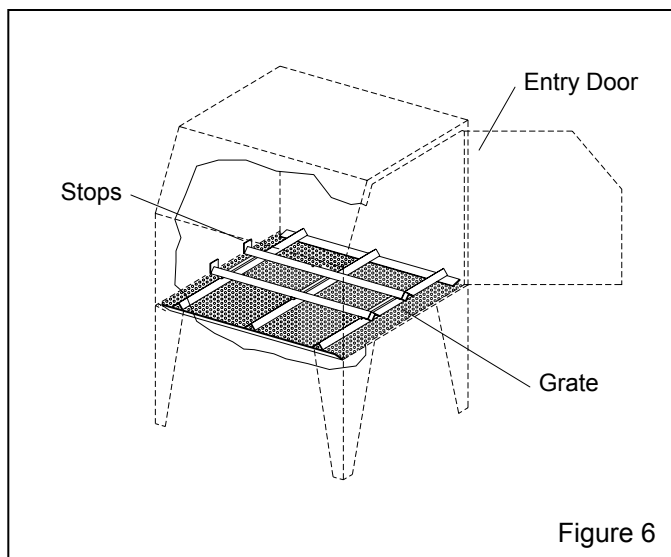

Figure 6
**3.4.2** Place the inside track in the cabinet over the existing grate as shown in Figure 6.